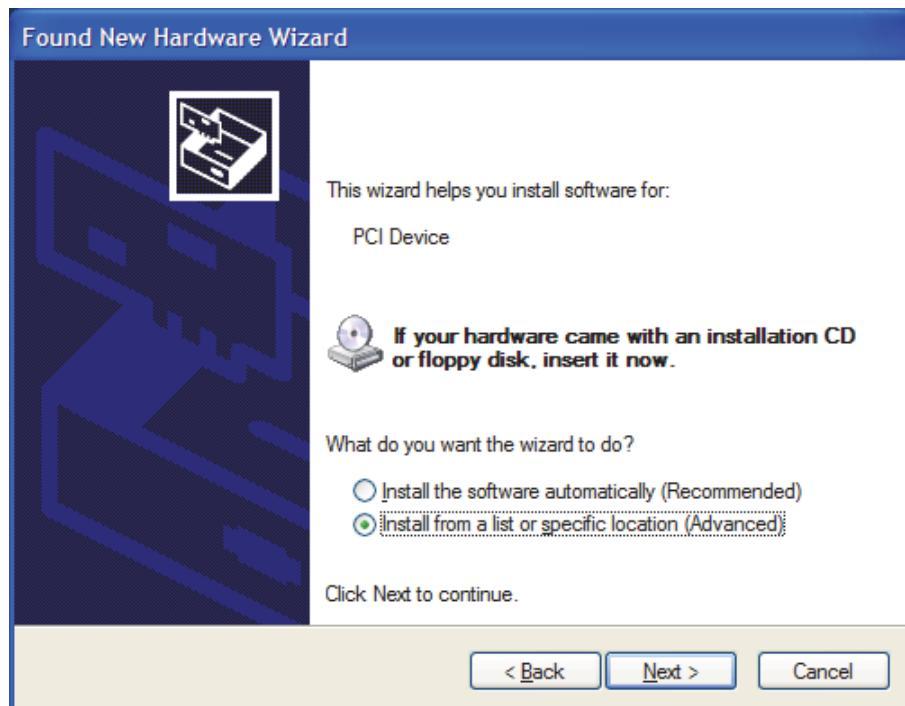

Figure 5-6. Found New Hardware Wizard - Install from Specific Location
3. Select **Install from a list or specific location (Advanced)**, and select **Next**. See Figure 5-6.